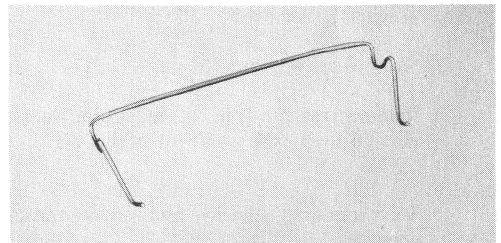

Fig. 45—840157333 Trap Lever Spring
- (4) If this firm **but not excessive** downward force does not cause the trap lever spring to release the trap, the existing spring is operating adequately. If the armature of the coin relay moves by this action, a new 840157333 wire spring (Fig. 45) should be installed as directed in paragraph 5.13. However if the armature of
**one's fingers and countertwisting them until both legs are aligned properly as illustrated in Fig. 45.**
- (1) Remove coin relay, if not previously removed.